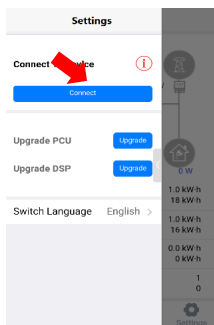

Figure 4-8
3. Open "Sun Mate" APP. Tap "Connect". (Figure 4-8)